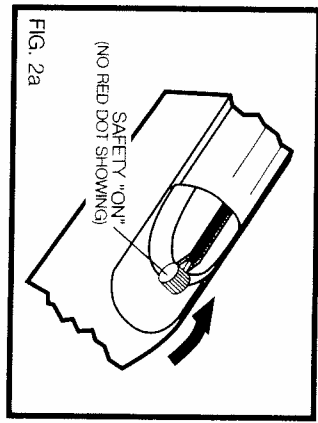

FIG. 2a
Put "ON" safety. Push safety to forward-up position - NO RED DOT SHOWING (See Fig. 2a).
- STEP 1. PUT "ON" SAFETY - NO RED DOT SHOWING (See Fig. 2a)
1. Put "ON" safety - NO RED DOT SHOWING. (See Fig. 2a)